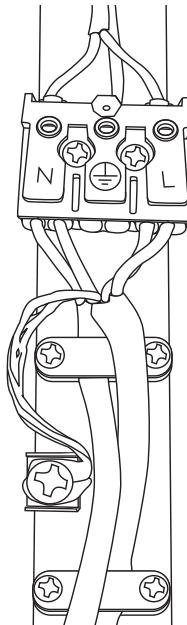

Fig. 3
4. Undo the three screws holding the lamp base to the post. Pull the light fitting and connection block out of the post and connect the electric cable to the terminals as shown in the diagram (see fig. 3). If the electric cable is too thick to fit two in one strain relief, use two strain reliefs with one cable in each.